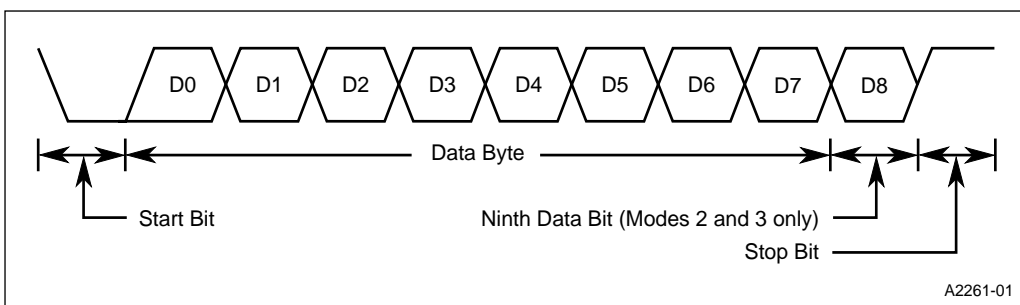

Figure 9-4. Data Frame (Modes 1, 2, and 3)
- **Mode 1.** Mode 1 is a full-duplex, asynchronous mode. The data frame (Figure 9-4) consists of 10 bits: one start bit, eight data bits, and one stop bit. Serial data is transmitted on the TXD pin and received on the RXD pin. When a message is received, the stop bit is read in the RB8 bit in the SCON register. The baud rate is generated by overflow of timer 1 or timer 2 (see “Baud Rates” on page 9-10).
- **Modes 2 and 3.** Modes 2 and 3 are full-duplex, asynchronous modes. The data frame (Figure 9-4) consists of 11 bits: one start bit, eight data bits (transmitted and received LSB first), one programmable ninth data bit, and one stop bit. Serial data is transmitted on the TXD pin and received on the RXD pin. On receive, the ninth bit is read from the RB8 bit in the SCON register. On transmit, the ninth data bit is written to the TB8 bit in the SCON register. (Alternatively, you can use the ninth bit as a command/data flag.)